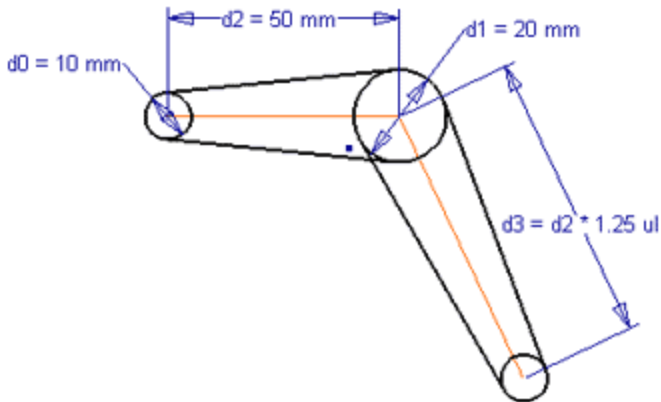

Figure 11: Dimensions shown as expressions.
11. Right-click any one of the dimensions and select Show Expression. The dimensions should match those shown in Figure 11.